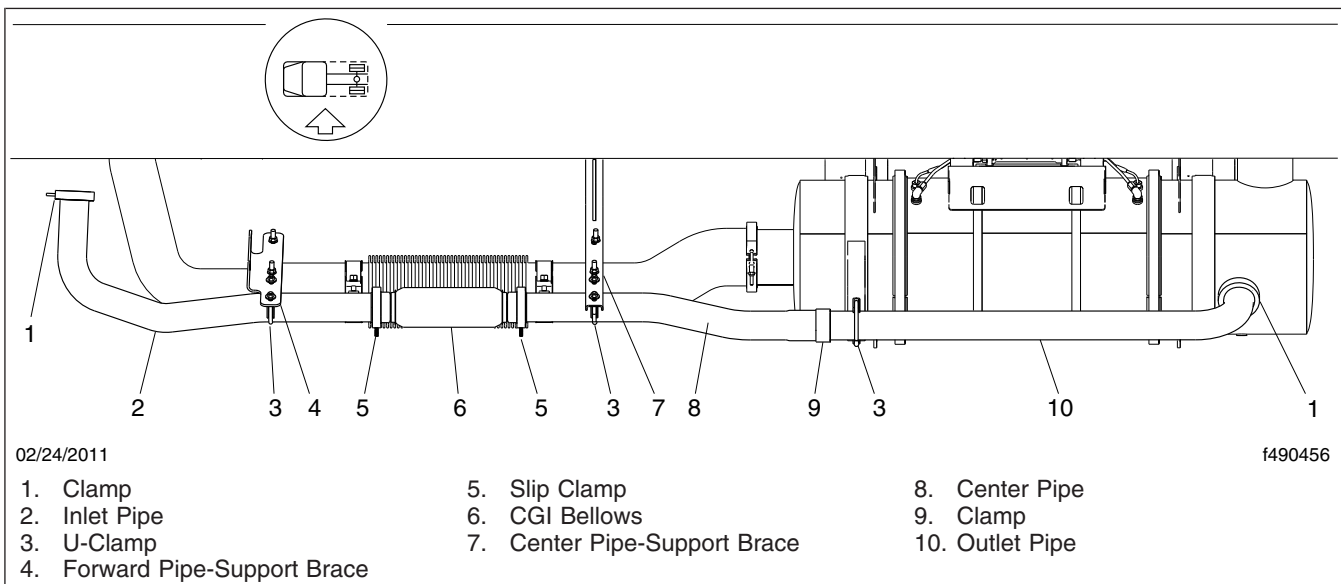

Fig. 5, CAT EPA07 Exhaust Installation with CGI Bellows
3. On vehicles with CAT engines, inspect the CGI bellows and piping for evidence of damage or leakage. See Fig. 5. If the bellows is damaged or leaking, replace it. See 49-02 for the replacement procedure.